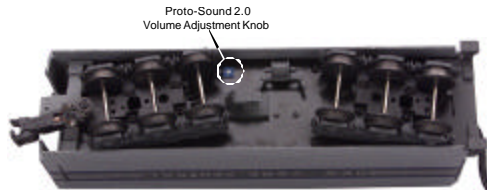

Figure 2. Manually Adjusting the Proto-Sound 2.0 Volume
**Volume Control** – To adjust the volume of all sounds made by this engine, turn the master volume control knob located under the tender clockwise to increase the volume and counter-clockwise to decrease the volume (see Fig. 2).